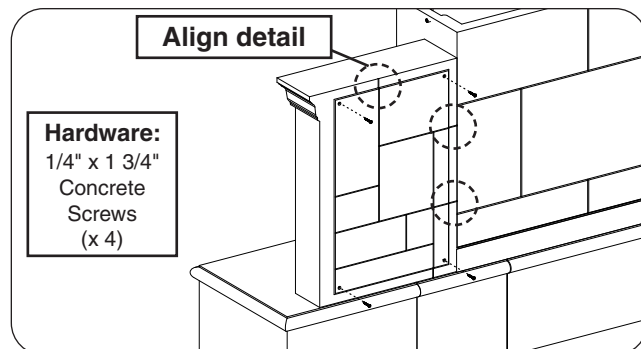

Fig. 26-2 Assemble rear side-wall (skip if n/a)
2. Each rear side-wall piece is marked to align the detail. Place the correct rear side-wall piece in position against the rear of the main piece, then fasten using a Phillips screwdriver and the supplied concrete screws (see Fig. 26-2).